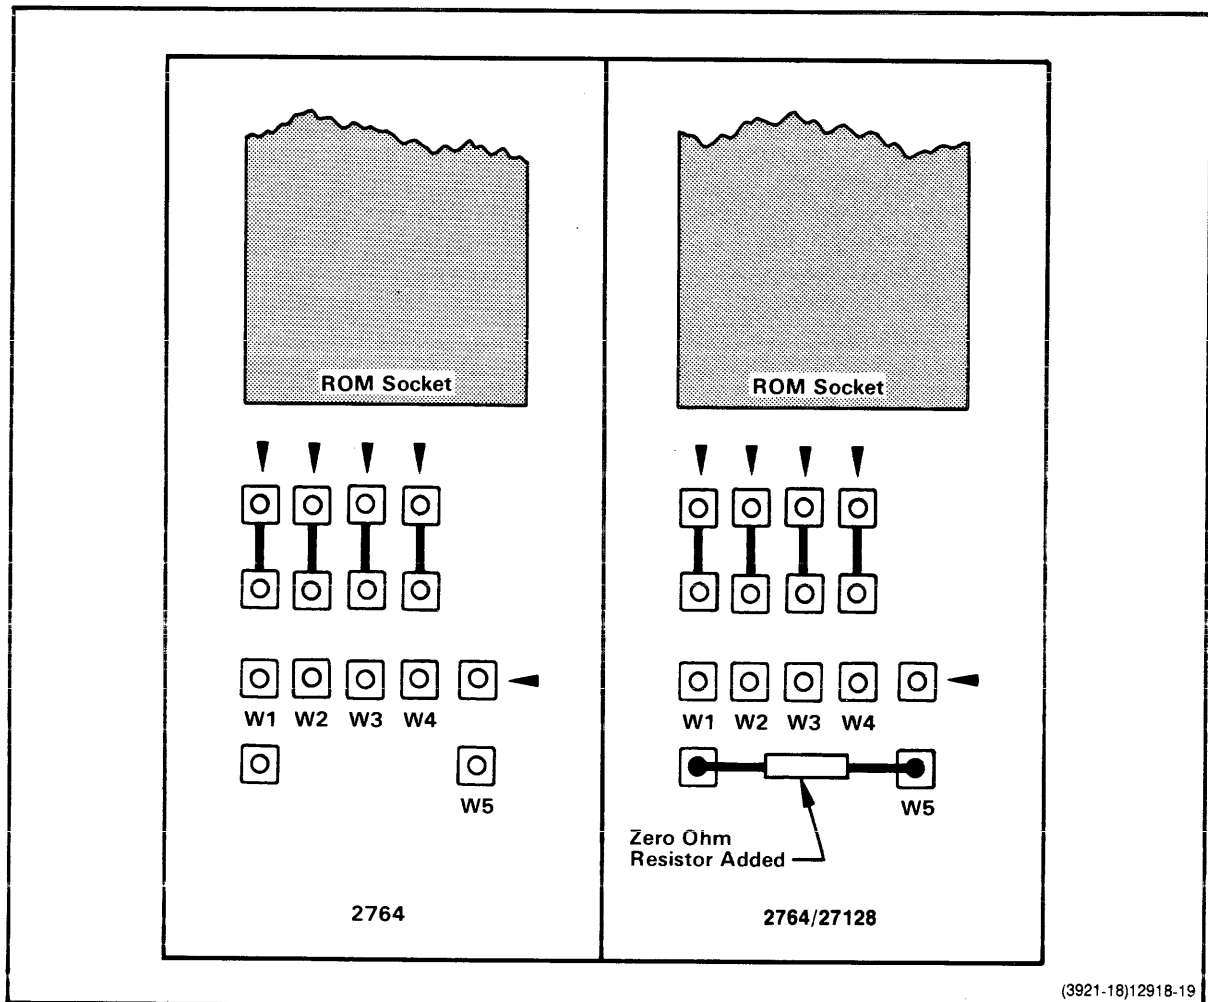

Fig. 6-11. Type-2764 and type-27128 ROM strapping.
The 8540's System ROM Board was originally shipped from the factory with the ROM sockets configured for only type-2764 ROMs. In recent shipments of the System ROM Board, the ROM sockets are configured for either type-2746 or type-27128 ROMs. See Fig. 6-11. If your 8540's System ROM Board is not configured for type-27128 ROMs, four 0-ohm resistors are provided with the 80186/80188 Emulator to make this modification to the ROM sockets before the ROMs are installed.
5. Solder a 0-ohm resistor (provided with your emulator) across the lower strap positions of each socket that will contain the type-27128 ROMs, if required. Figure 6-11 shows the position of the 0-ohm resistor. Insert the four type-27128 ROMs into these sockets. After a socket is modified, either a type-2764 or a type-27128 ROM can be installed in the socket.